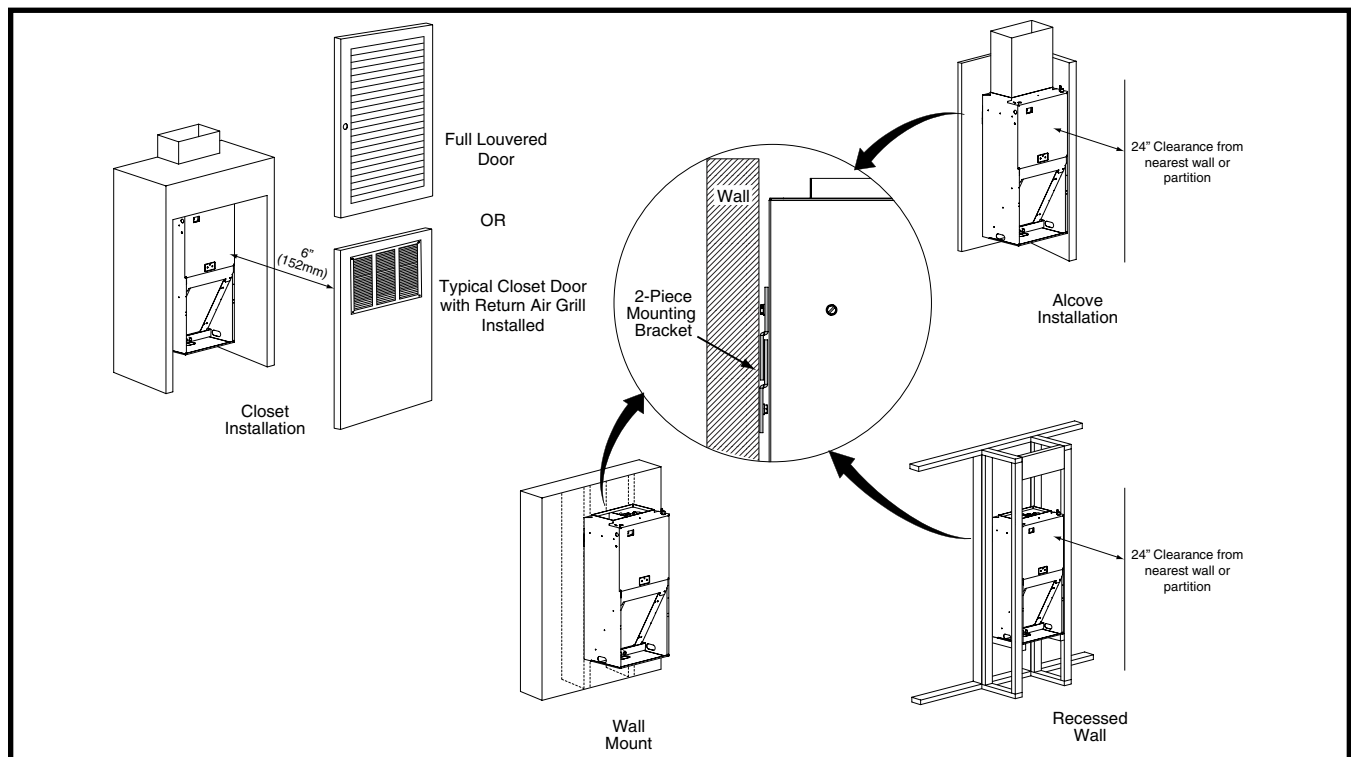

Figure 1. Unit Installation
The B6BW Air Handler is shipped ready for vertical upflow installation and can be mounted directly on a wall or recessed between framing studs as shown in Figure 1. Units are also approved for closet or alcove installation with zero clearance to combustibles. See Table 1 (page 4) for required installation clearances. **This appliance is only for indoor use.**
- If a louvered door is installed across the front of this unit, the appliance must be mounted flush or behind front edge of finished wall. See Figure 1.
For hanging applications, these units are provided with 2-piece offset hanging bracket attached to the rear of the cabinet. See Figure 1. Mounting bracket dimensions are shown in Figure 4 (page 13).